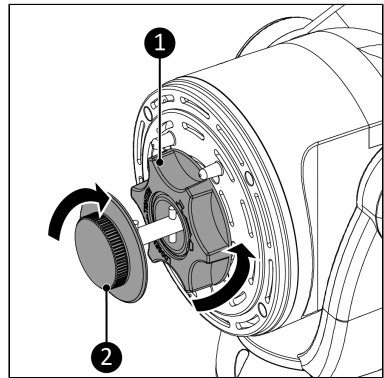

Figure 24.
5. Remove the blade nut (Figure 24, pos. 2) from the fan motor by turning it clockwise.
6. Remove the grille nut (Figure 24, pos. 1) from the fan motor by turning it counterclockwise.